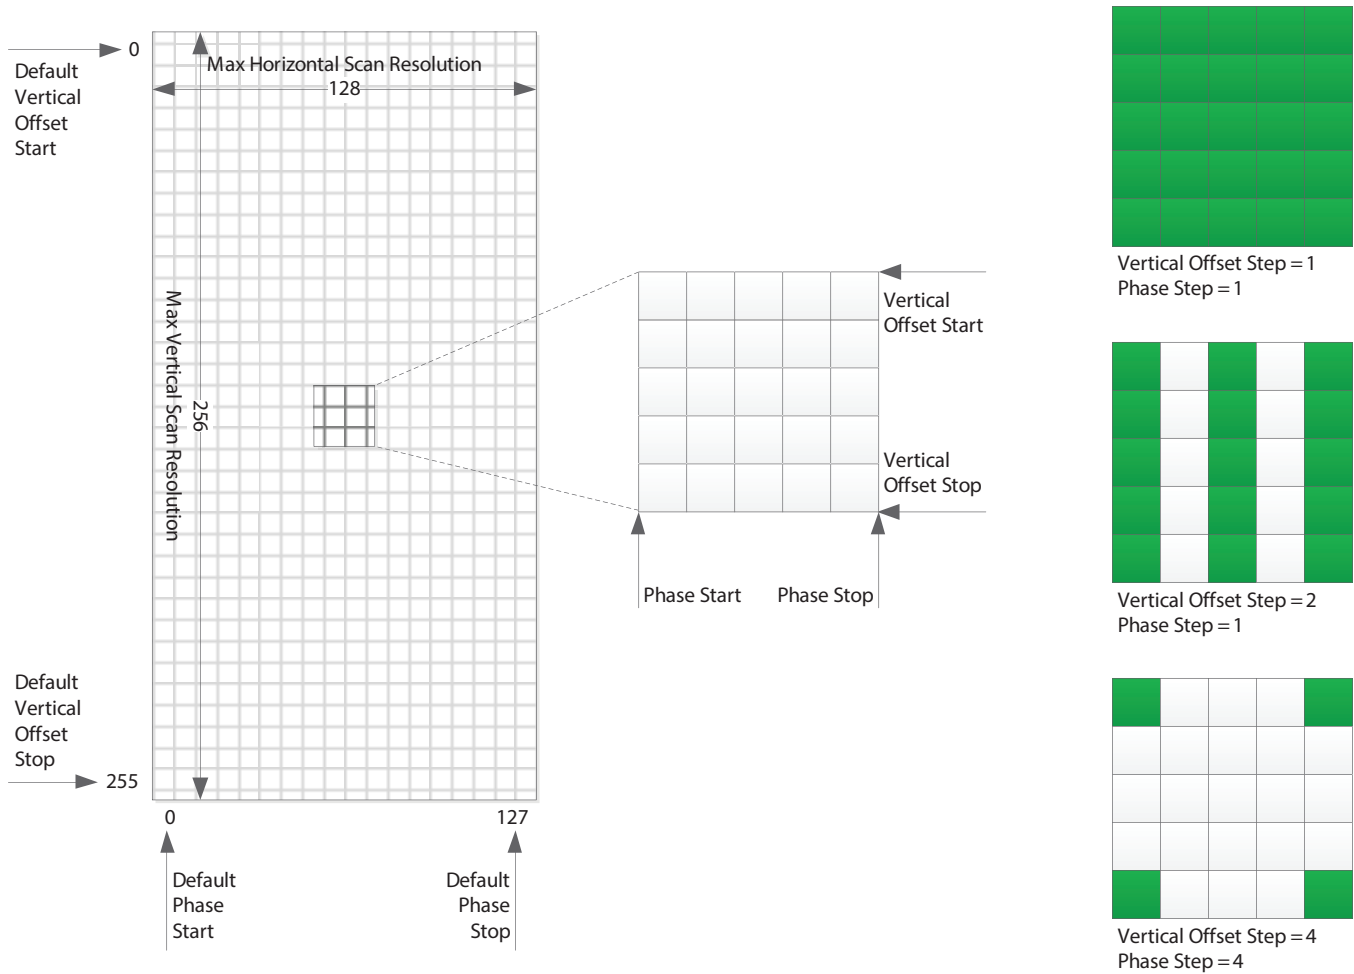

Figure 4-5: Eye Scan Matrix Parameters
Figure 4-5 shows a visual representation of the scan matrix and indicates the spatial parameters that determine the scan area and resolution. Running a scan using the default offset and step parameters, results in 32768 (128x256) samples. The number of samples and thus, the total scan time can be reduced to meet the needs of the application. The scan area can be reduced by reducing the span determined by the vertical and phase start and stop offsets, or the resolution can be reduced by increasing the step size between adjacent samples. On the right in Figure 4-5, there are three step settings used as examples, however there are a total of nine combinations possible. See Table 4-6 for the register addresses and parameter names of the spatial eye scan parameters.
- ◆ Making reference to the Matrix shown in Figure 4-5, the eye scan data starting at $6CC3_h$ is stored in order from left to right, top to bottom, from the last stored vertical/horizontal position in the matrix.